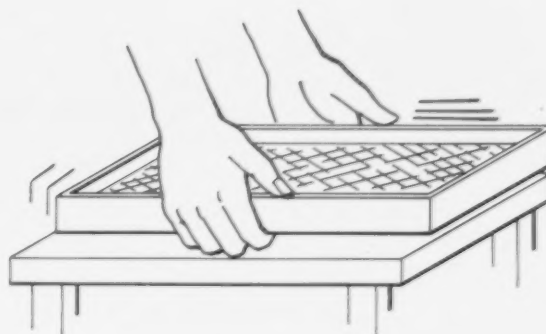

Fig. 3—Tapping Filter On A Flat Surface
2. Tap the filter gently on a flat surface—dirty side down (Fig. 3).